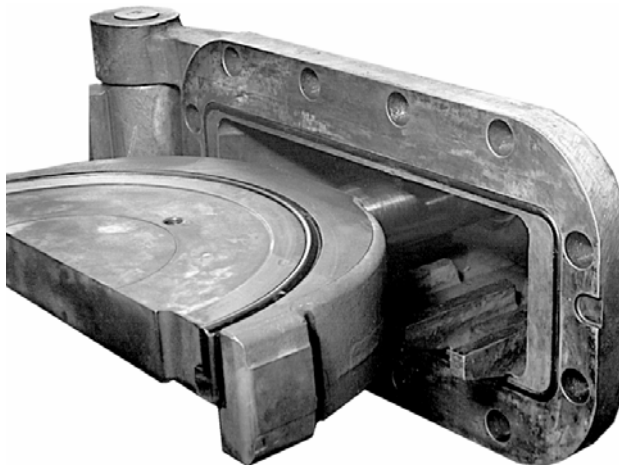

Figure 4-10. Ram Out of Door Cavity
7. Slowly apply reduced closing hydraulic pressure until the ram shaft is extended out of the BOP door cavity as shown in Figure 4-10.